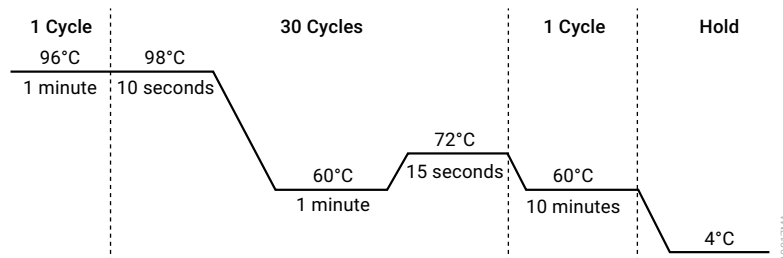

Figure 2. The thermal cycling protocol for the Mastercycler® X50s PCR System.
2. Select and run the recommended protocol provided below and in Figure 2. The total cycling time is approximately 75 minutes.